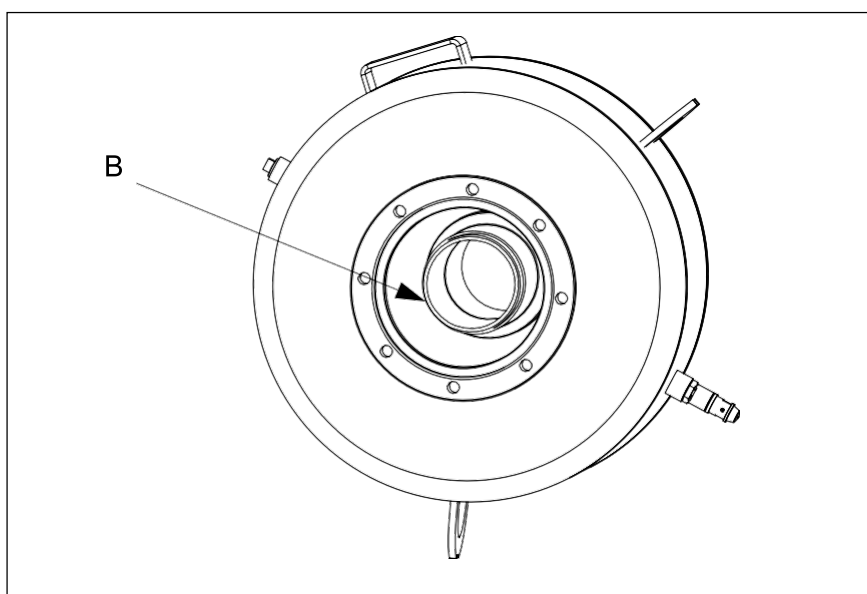

Fig. 17:
4. Inspect the inside of the air cannon (B, Fig. 17); ensure that the surfaces of the discharge pipe are smooth and clean so that the O-rings lie correctly and a hermetic seal is obtained.